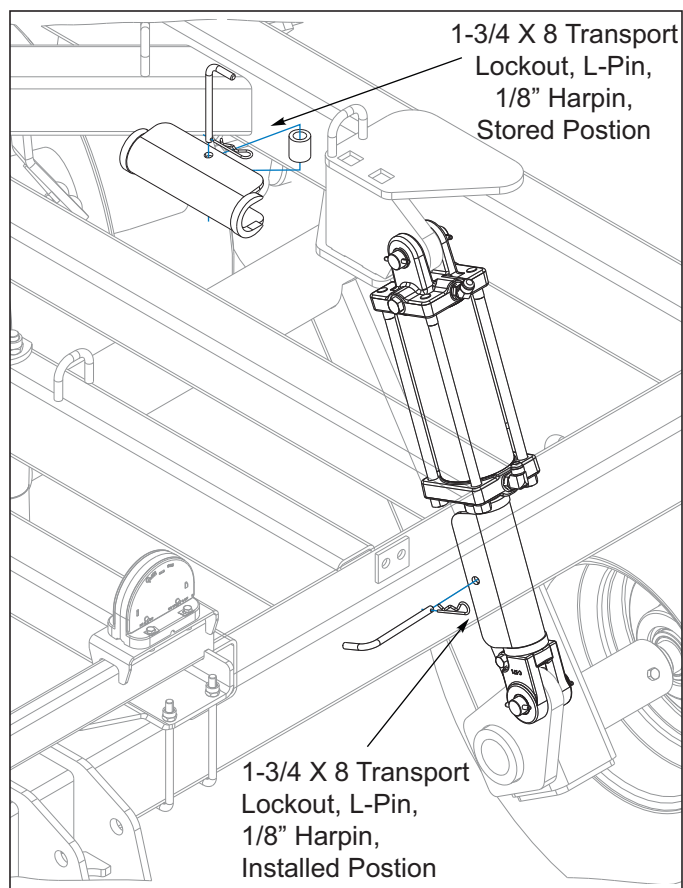

Figure 4-2: Transport Locks
1. If the hydraulic system is not filled with oil it should be purged of air before transporting and field operations. Carefully hitch the Filloll to the tractor and connect the hydraulic lift hoses. Check to make sure the tractor hydraulic reservoir is full of the manufacturer's recommended oil. Slowly raise the machine, and continue to hold the hydraulic lever until all lift cylinders are fully extended. Lower and raise the unit to verify that all cylinders are working simultaneously throughout the stroke. Recheck tractor reservoir to make sure it is within operating limits. With all cylinders fully extended, install the 1-3/4 X 8 transport lockouts in installed position See Figure 4-2 from the stored position.
1. Raise the unit to take the weight off of the transport locks. Remove the transport locks from the lift cylinders and store on the retainers in front of rockshaft *See Figure 4-2*.